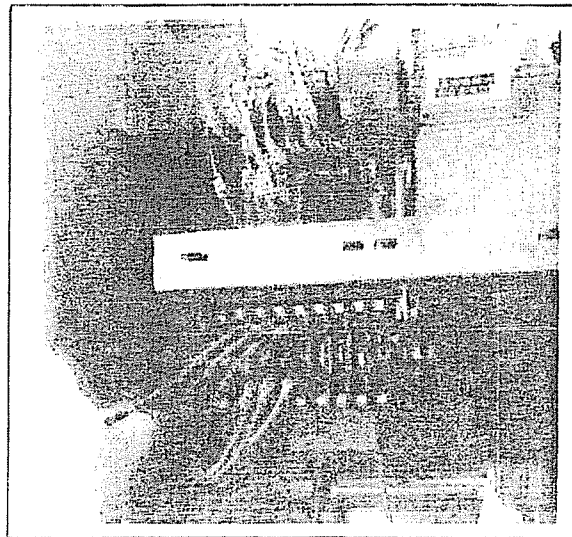

Figure 45
7. Insert the screwdriver between the nut and washer at the end of the block to reclose the gap between the metal cam and the notched ring. The cam may need to be moved slightly to align the indentation and the notch. See Figure 45.